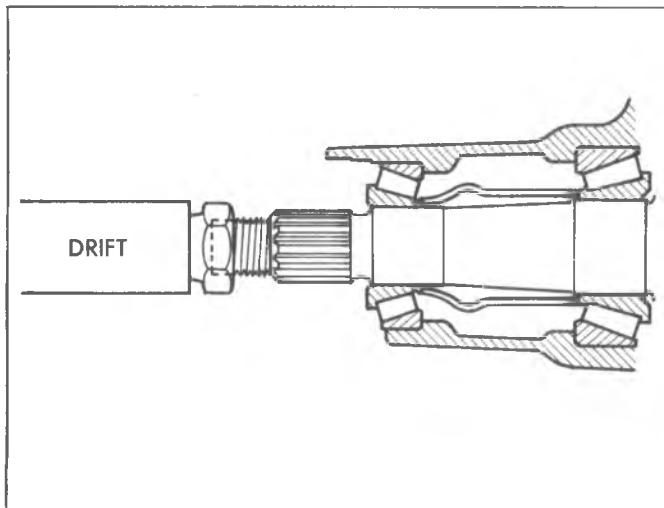

Fig. 14B—Removing Drive Pinion
8. Tap the end of the pinion nut with a large hammer and a soft drift, as shown in figure 14B.